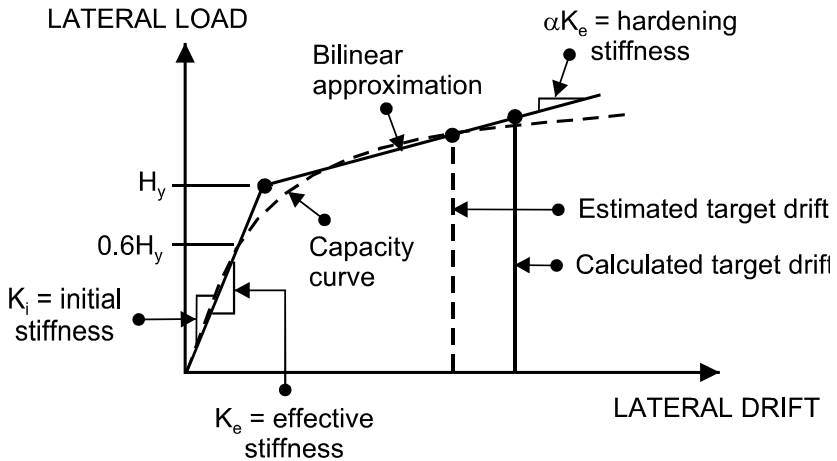

Figure 29.1 Ingredients of a Target Displacement Plot
Figure 29.1 shows the ingredients of a target displacement plot. These are as follows.
In Figure 29.1 the calculated target drift is larger than the estimated drift. A new estimate must be made, until the estimated and calculated drifts are close to each other. This defines the target drift.
- (1) The bilinear approximation. The FEMA 356 approximation is shown in Figure 29.1. The areas under the capacity curve and the bilinear approximation are equal at the estimated target drift.
- (2) The calculated target drift. This is as follows.
This factor converts the drift for an elastic structure with stiffness  $K_e$  to the drift for an inelastic structure with bilinear behavior as shown in Figure 29.1. This factor is largely empirical. For details see FEMA 356.